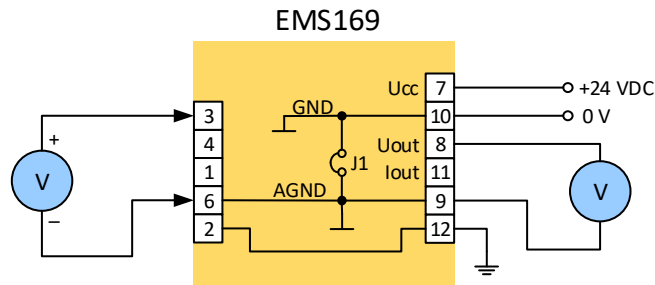

Fig. 8. Excitation sensor voltage measuring (without sensor)
3. **Sensor excitation test 1 (without sensor)**. The excitation voltage of the sensor is measured at the clamps 3 and 6, see figure 8. It should be  $+ 7.0 \text{ V} \pm 5 \text{ mV}$ .